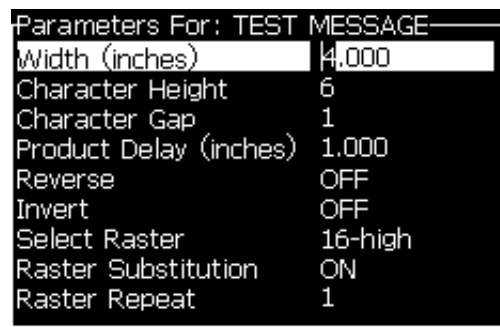

Figure 5-11: Message Parameters Dialog Box
- 2 Under the *Messages* menu, select the Message Parameters (Figure 5-11) to edit the values.